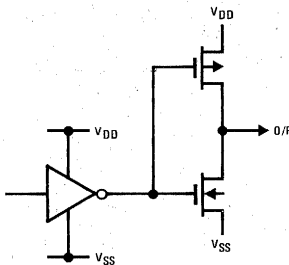

FIGURE 3. CMOS Output (TV "ON", Auto "ON", Indicator)
**TV "ON" Output:** Figure 3 illustrates the CMOS inverter output circuit used.